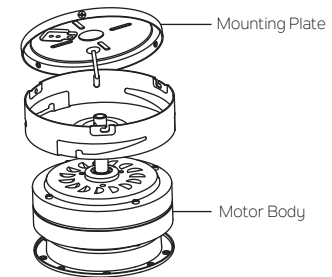

Fig. 6
Step 2. Hook the motor body onto the mounting plate as shown. You can now proceed with the electrical wiring of your fan. (Fig. 6)